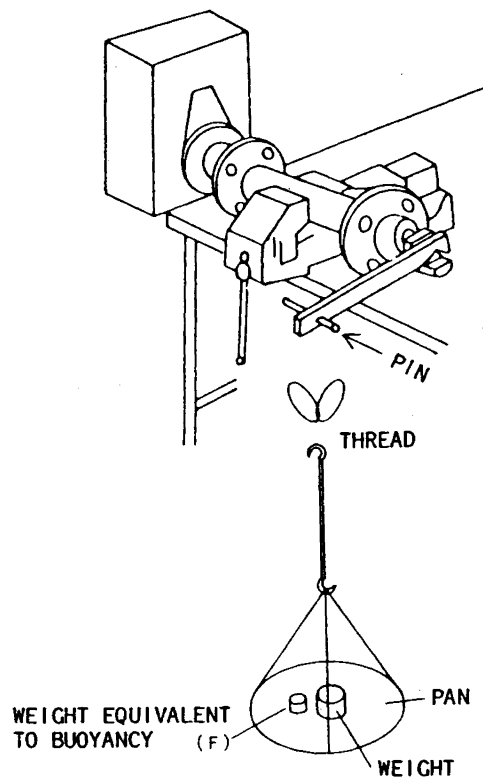

Figure 4-2
- (1) Fix the torque tube assembly together with the transmitter to a bench by using, for example, a vice as shown in Figure 4-2.
- (2) Prepare a weighing pan as shown in Figure 4-2 and hang it on the pin at the end of the torque tube using a thread or fine wire looped into two circlets.